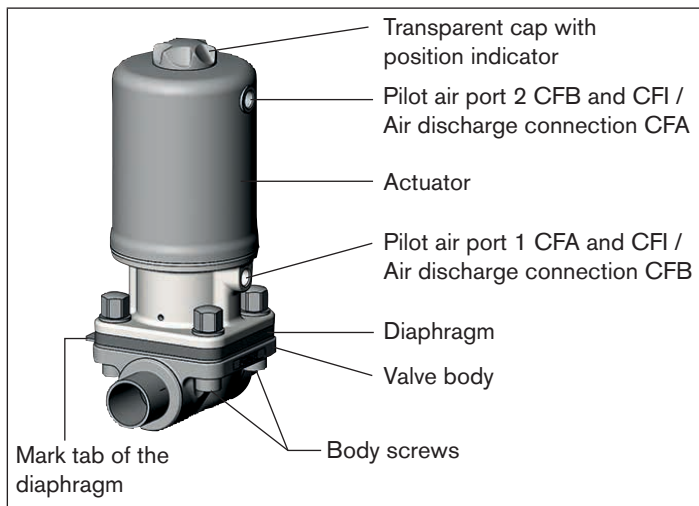

Fig. 28: Maintenance
**The mark tab of the diaphragm must be perpendicular to the direction of flow** (see „Fig. 28“).
**The mark tab of the diaphragm must be perpendicular to the direction of flow (see „Fig. 28“).**